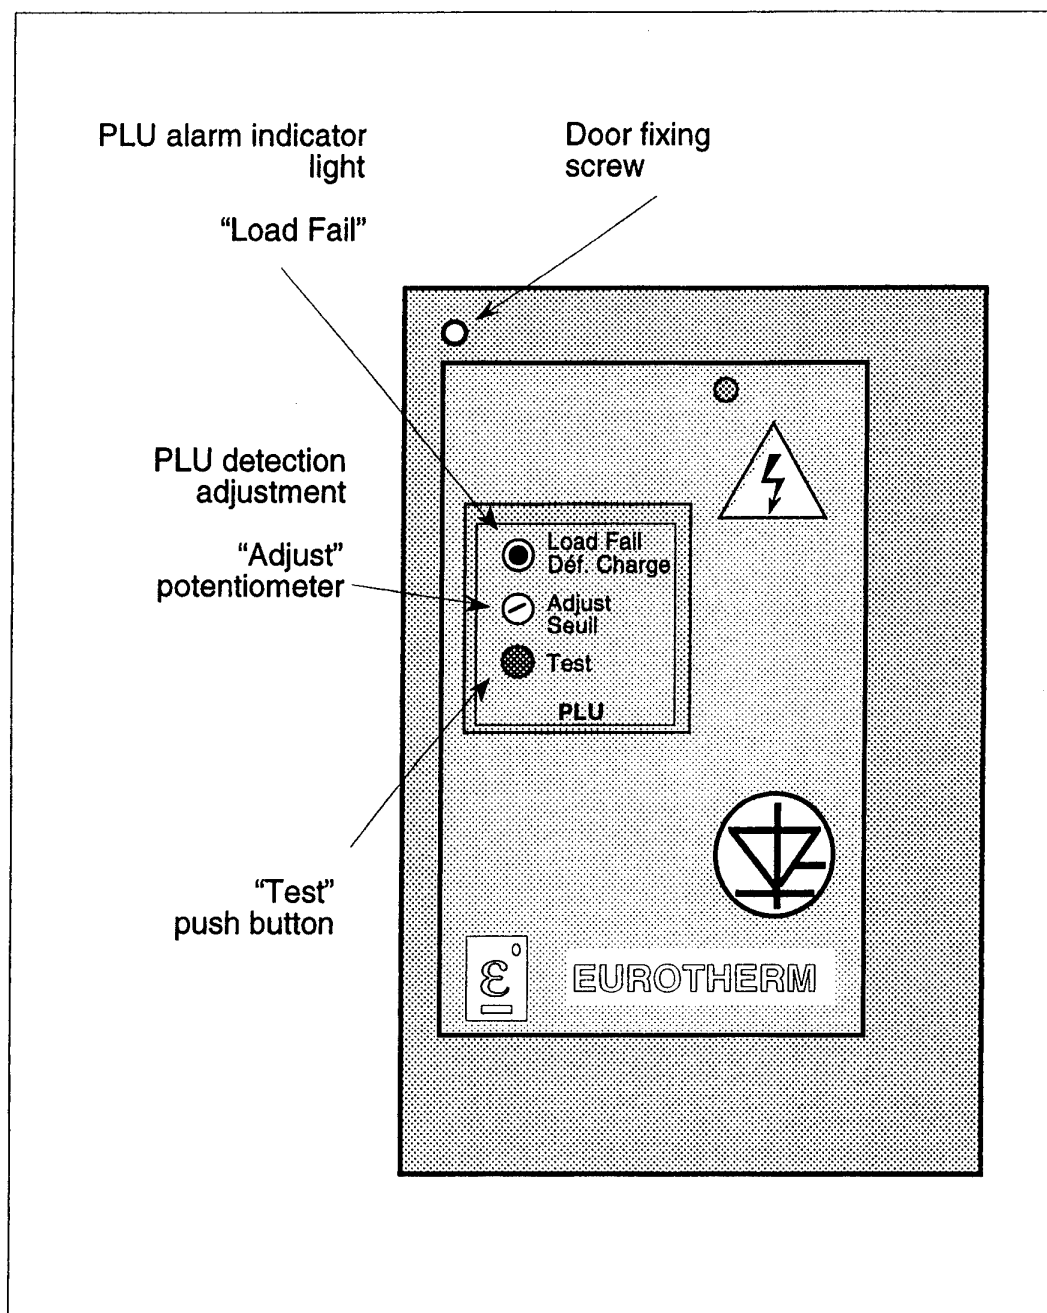

Figure 6-2 Location of adjustment equipment on the front fascia of the unit
- Turn the "**Adjust**" potentiometer on the front fascia completely clockwise (see figure 6-2).